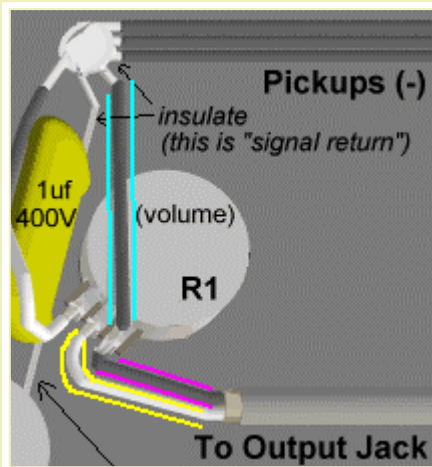

Figure 3c
- Solder the inner conductor that you will later attach to the positive ("hot") terminal of the output jack to the wiper terminal of the volume pot as shown (yellow highlight) in figure 3c.
- Attach the other inner conductor **and a short piece of #20 or #22 wire** to the low terminal of the volume pot as shown (violet highlight) in figure 3c. Once both wires are mechanically attached to the terminal, solder the connection.
- Attach the remaining end of the short piece of #20 or #22 wire to the ring terminal attached to the capacitor as shown (cyan highlight) in figure 3c.